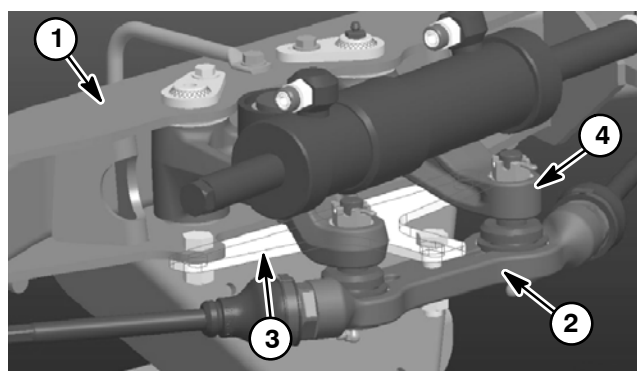

Figure 7
8. Secure front alignment tool (see Special Tools in this chapter) to front axle and center link (Fig. 7). If necessary to align front steering components with alignment tool, loosen hydraulic hoses on front steering cylinder to allow front cylinder movement independent of the rear steering cylinder. Then, use a large adjustable wrench to rotate front steering arm so that front steering components are aligned with alignment tool.